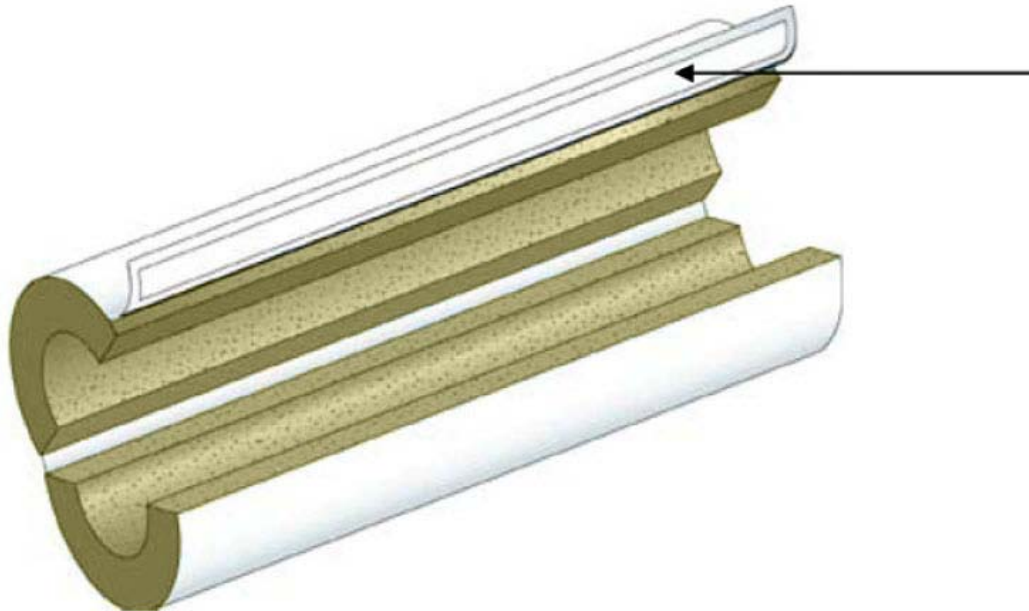

Figure 7
- 4.1.17 On factory applied Saran Vapor Retarder Film, lap joint to be sealed with SSL tape. All vapor retarder surfaces should be cleaned and free of dust, grease, oil, etc before application of the SSL tape to ensure good adhesion between the tape and vapor retarder. Refer to Figure 7 in Appendix. For other types of factory applied vapor retarders, consult manufacturer's recommendations on installation.